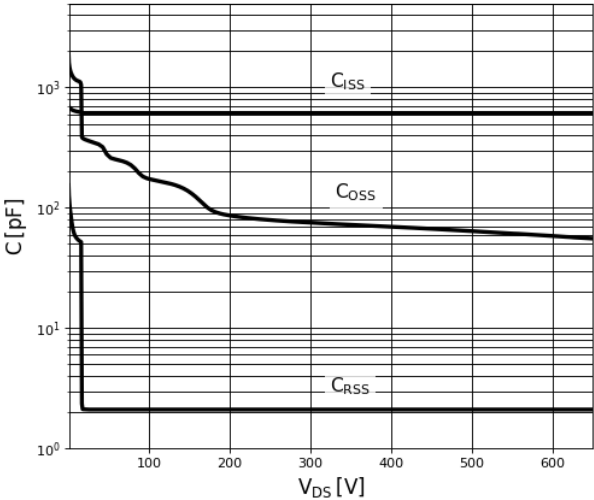

Figure 5. Typical Capacitance
- f. Dynamic on-resistance; see Figures 5 and 6 for test circuit and conditions